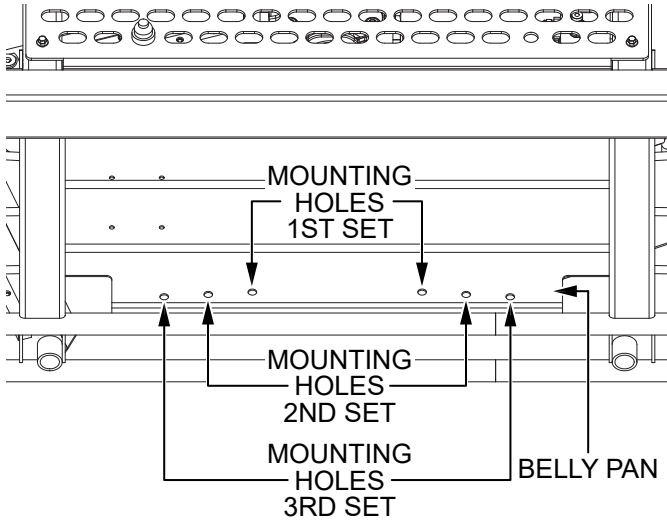

Figure 2. Locate Mounting Holes
1. Locate the mounting holes (Figure 2) in the belly pan at the front of the trowel. Note that there are three sets of holes, but only one set of holes will be used. Whichever set of mounting holes is chosen will determine the distance that the edger wheels extend out from the trowel.